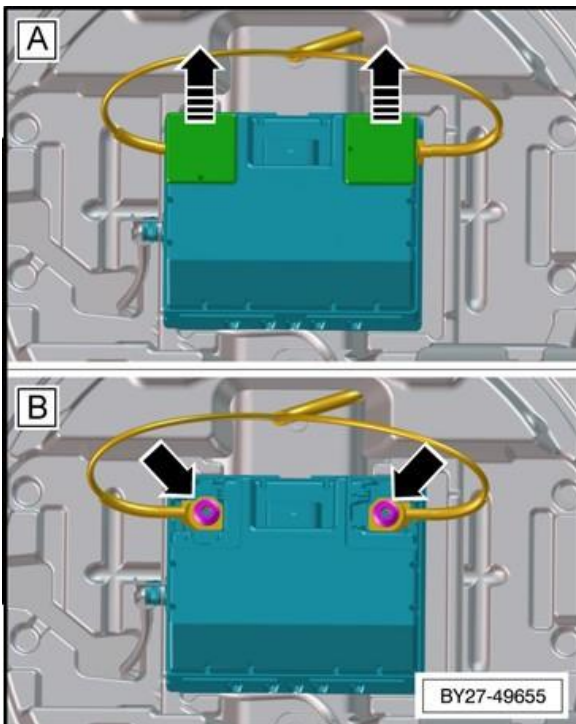

Figure 1
- Referring to Rep.Gr 27 - Check the security of the super capacitor positive and negative terminals (Figure 1) as follows:
- Remove the caps (A) from the terminals